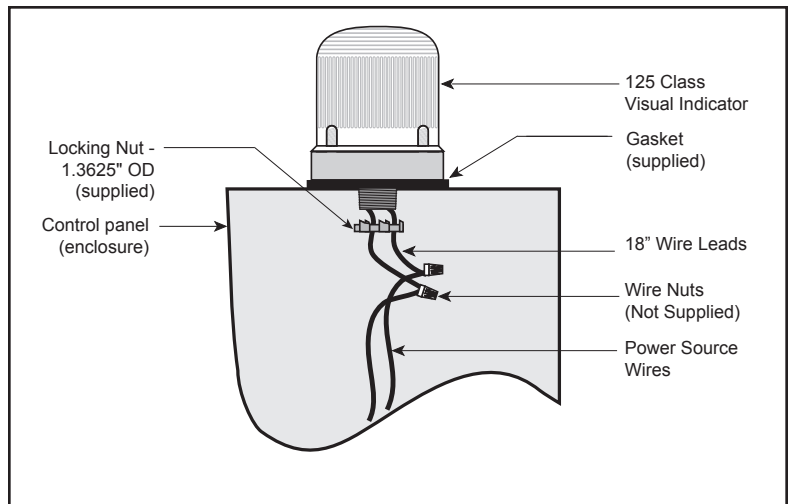

Figure 2. Panel Mounting
### Panel Mounting (Figure 2)
3. Using wire nuts (not supplied), connect the signal's wire leads as shown in Figure 2. Polarity must be observed.
2. **Panel Mounted Modules:** Disconnect wiring and remove locking nut that secures the base to the panel (Figure 2).